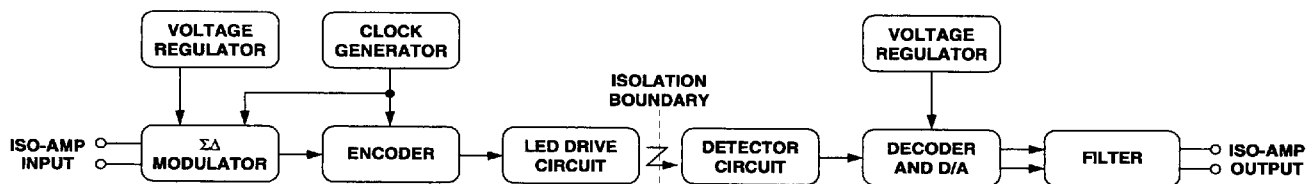

Figure 23. HCPL-7840/J784 Block Diagram.
8. CMR (also known as IMR or Isolation Mode Rejection) specifies the minimum rate of rise of a common mode noise signal applied across the isolation boundary at which small output perturbations begin to appear. These output perturbations can occur with both the rising and falling edges of the common mode waveform and may be of either polarity. A CMR failure is defined as a perturbation exceeding 200 mV at the output of the recommended application circuit (Figure 23). See applications section for more information on CMR.
Figure 23 shows the primary functional blocks of the HCPL-7840/J784. In operation, the sigma-delta modulator converts the analog input signal into a high-speed serial bit stream. The time average of this bit stream is directly proportional to the input signal. This stream of digital data is encoded and optically transmitted to the detector circuit. The detected signal is decoded and converted back into an analog signal, which is filtered to obtain the final output signal.